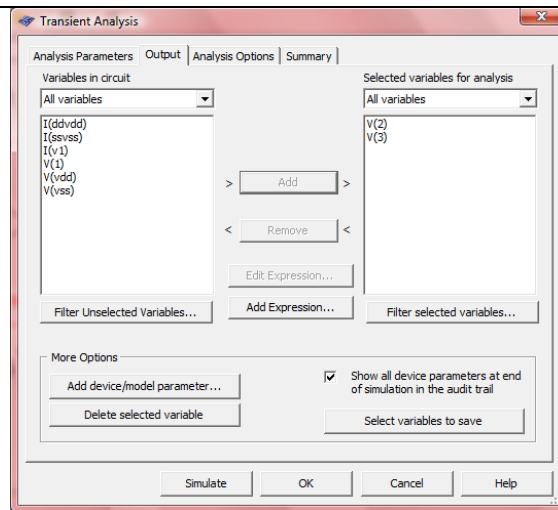

Figure 4.3.5 Selecting the input and output signals for analysis.
Now click on the Output tab, and add V(2) and V(3), the output and input signals of the amplifier, respectively, to the selected variables for analyses field as shown in Fig. 4.3.5 at the bottom of this page.